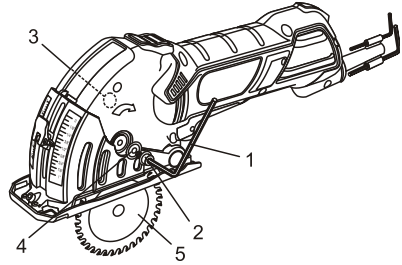

Fig. 1
2. Insert the 5 mm hex key (1) into the arbor screw (2) on the LEFT side of the tool (Fig. 1).
3. Press inward on the spindle lock button (3) which is located on the RIGHT side of the tool.
5. Continue to rotate the arbor screw in a CLOCKWISE direction until the arbor screw is removed and the thick arbor washer (4) can be pulled off the arbor.